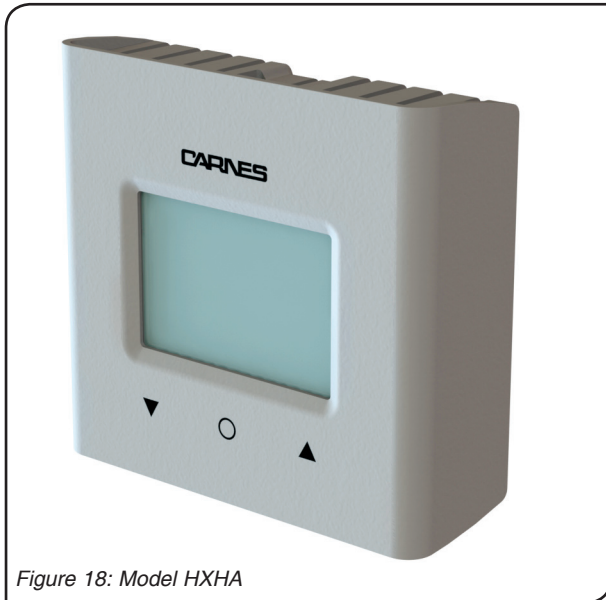

Figure 18: Model HXHA
- **Control Humidistat / Temperature Compensated:** The HXHAWT or HXHAST can be used if your application has a requirement for an outdoor temperature compensation feature. Both controls will provide monitoring of RH percentage and outdoor temperature, along with automatically adjusting the RH setpoint as outdoor temperatures change. The HXHAWT or HXHAST provides a 0-10V signal in either a proportional or on-off configuration. See Figure 18.